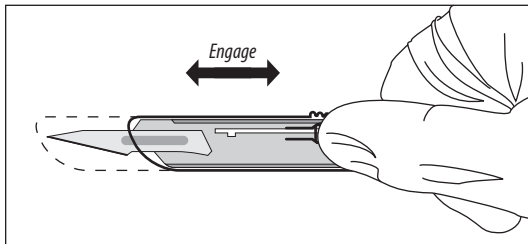

Figure 19
- Engage safety and/or locking feature of scalpel (where provided) once cutaneous puncture site is enlarged, to reduce risk of cutting the guidewire (refer to Figure 19).